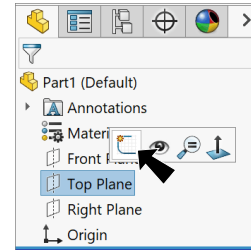

Fig. 1
Step 2. Click **Top Plane**  in the Feature Manager and click **Sketch**  on the context toolbar, **Fig. 1**.
Step 3. Click **Circle**  (S) on the Sketch toolbar.